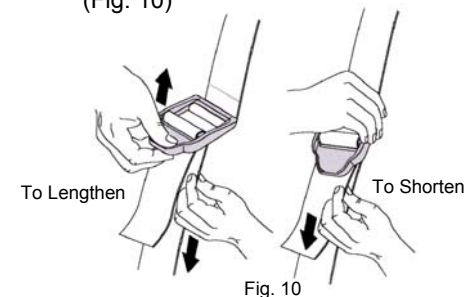

Fig. 10
6. While in the operating position, adjust the length of the shoulder strap to fit your height. To lengthen the shoulder strap, pull the strap down and move the buckle up. To shorten, pull the strap back through the buckle while moving the buckle down. (Fig. 10)